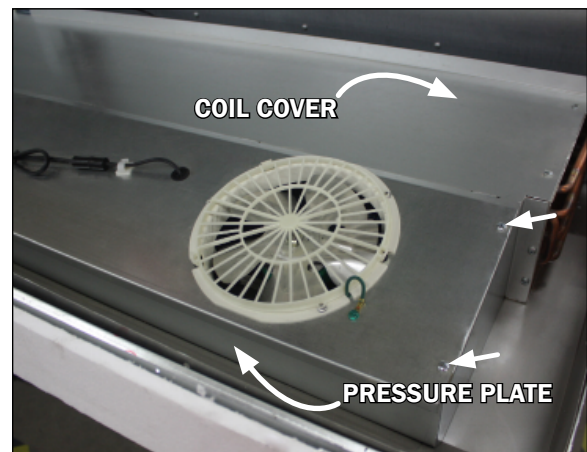
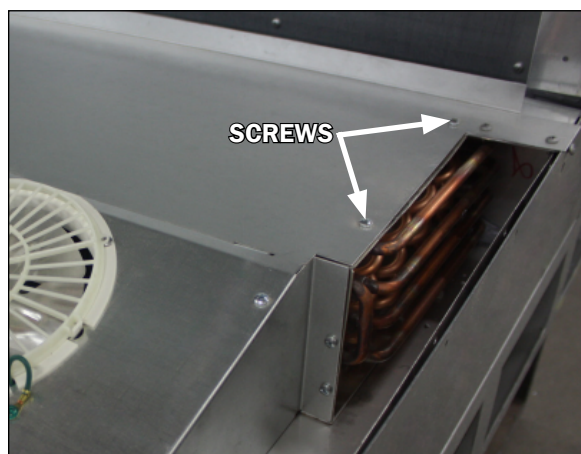

Fig. 17 Pressure plate, screw locations and coil cover (topside)
Fig. 20 Coil cover removal
2. To access the underside of the fans first remove the screws on the top ends and front sill of the pressure plate cover (Fig. 17). Lift the pressure plate by use of
2. Remove the top two screws at both ends of the coil cover (Fig. 20), as well as the screws from the top ends and front sill of the pressure plate cover (Fig. 17). **Be sure to save the removed screws for reassembly.**